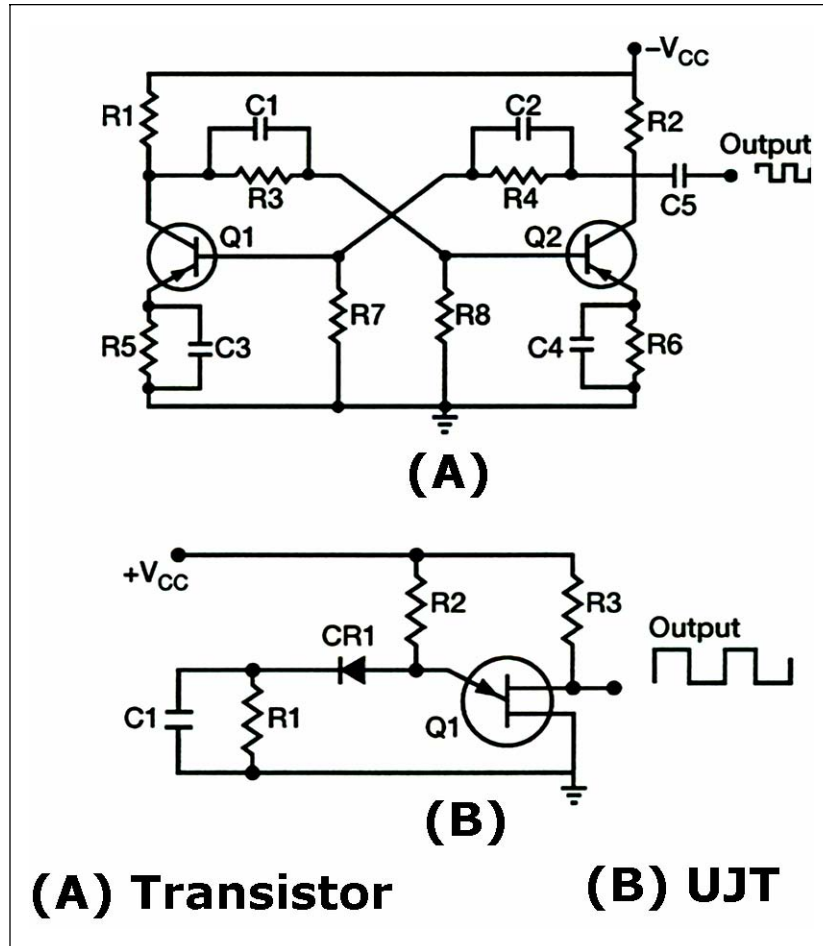

Figure 3-38. Comparison of Conventional Transistor and UJT Circuits
3-65. The UNIJUNCTION TRANSISTOR, originally called a double-based diode, is a three-terminal, solid state device that has several advantages over conventional transistors. It is very stable over a wide range of temperatures and allows a reduction of components when used in the place of conventional transistors. Figure 3-38 shows a comparison of a conventional transistor and a UJT. View (A) shows a circuit using conventional transistors and view (B) is the same circuit using the UJT. As you can see, the UJT circuit has fewer components. Reducing the number of components reduces the cost, size, and probability of failure.